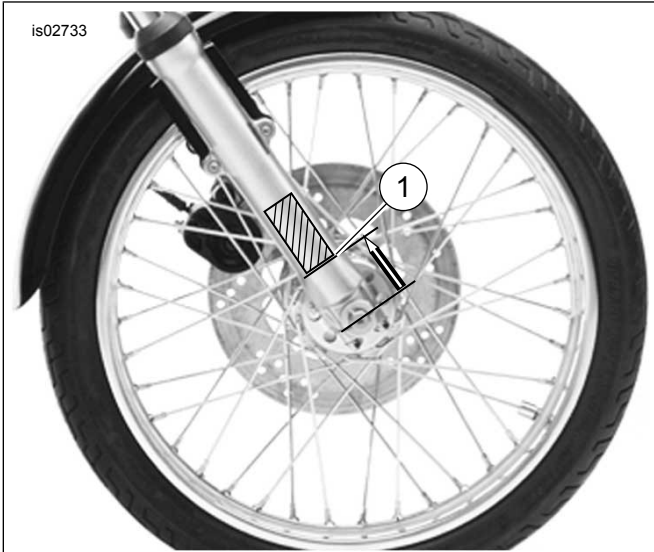

Figure 1. Reflector Placement
7. Peel the remaining liner from the tape. Place the reflector in position on the fork slider as shown in Figure 1 and press firmly into place.